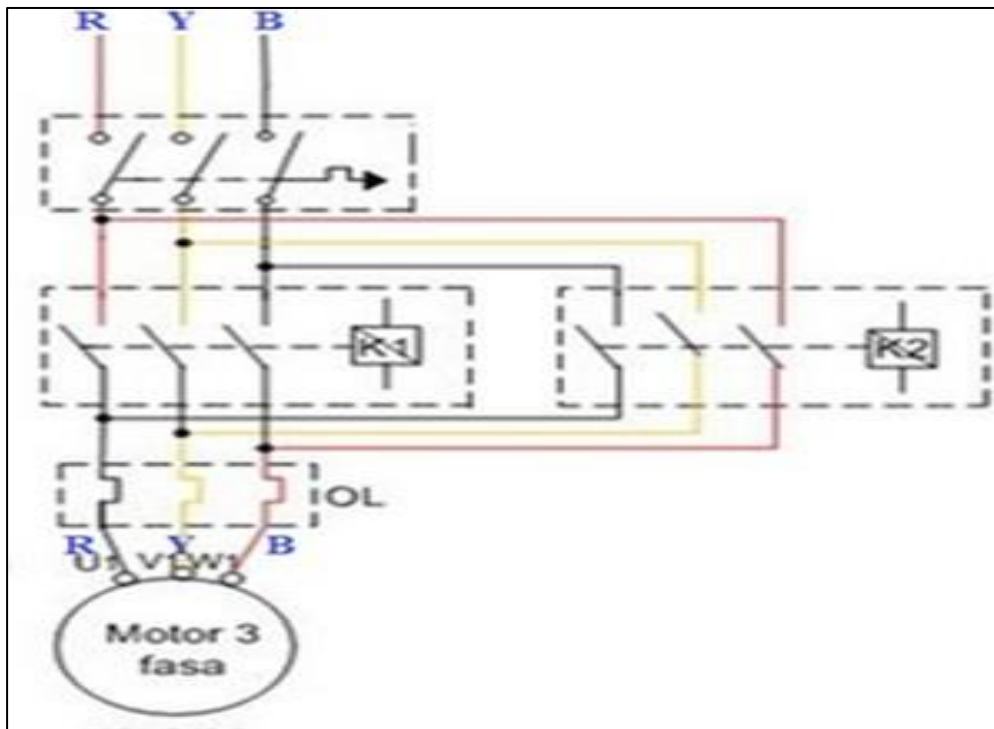

Fig.18 Automatic forward and reverse control of three phase squirrel cage induction motor
1. Analyze the forward and reverse control operation of three phase induction motor for fig.18 using ladder diagram in terms of concepts.